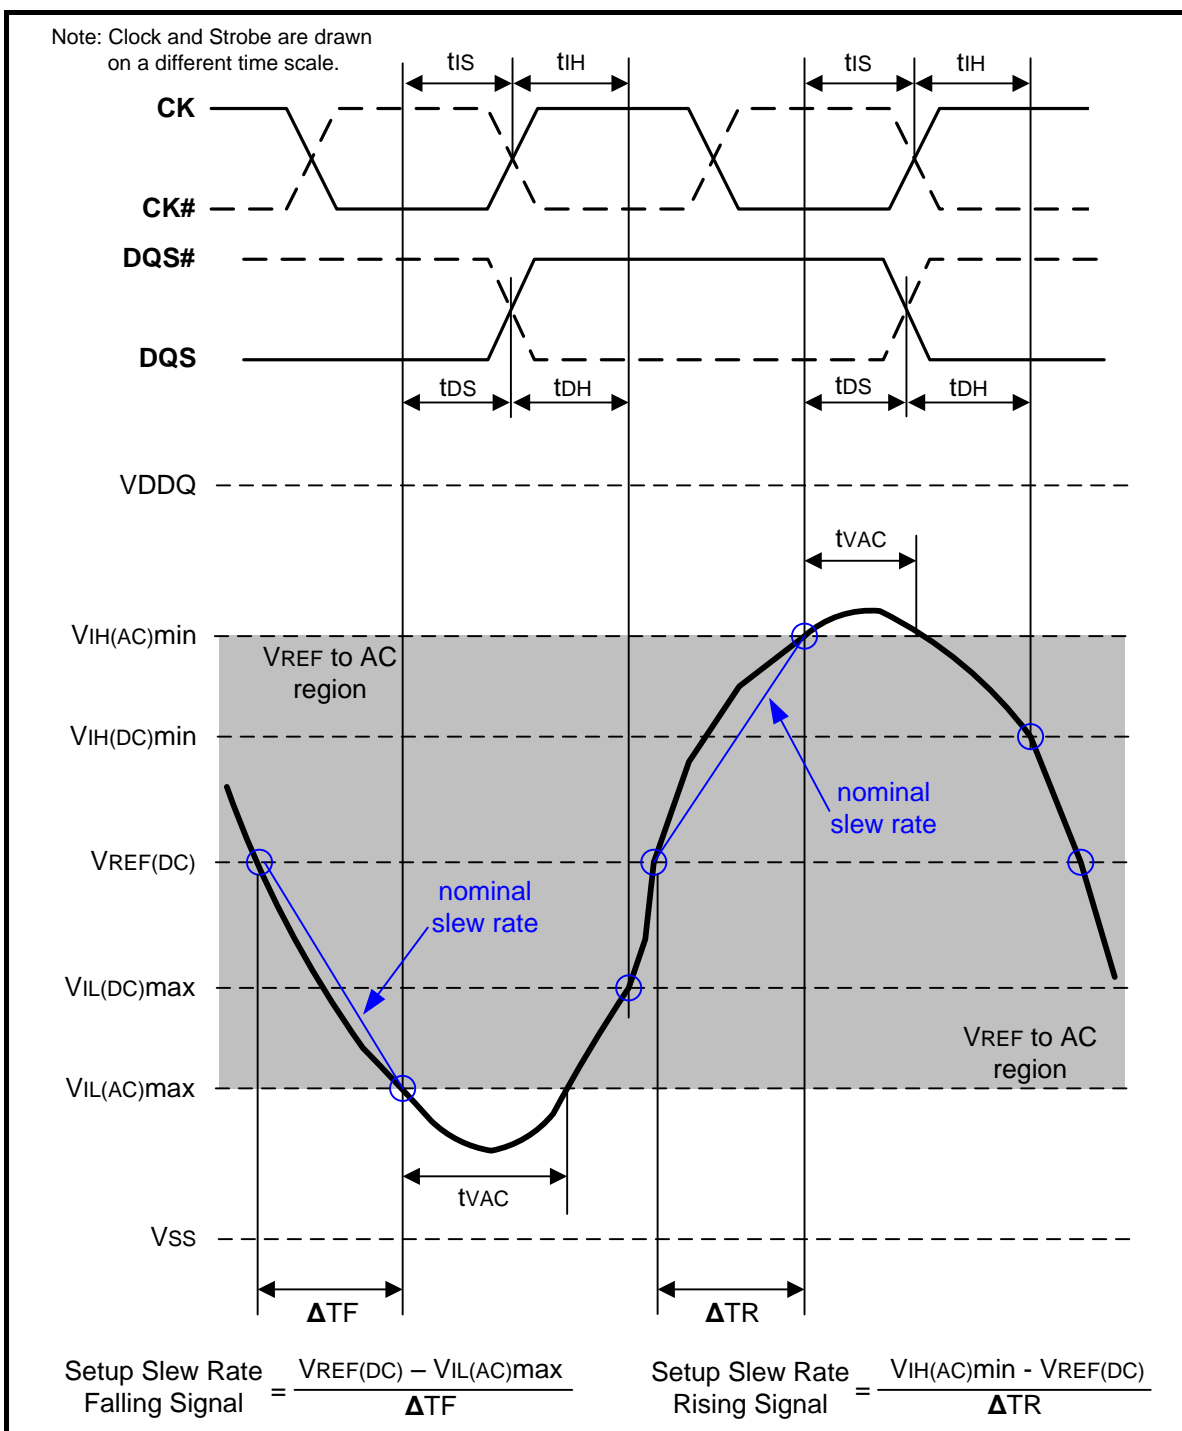
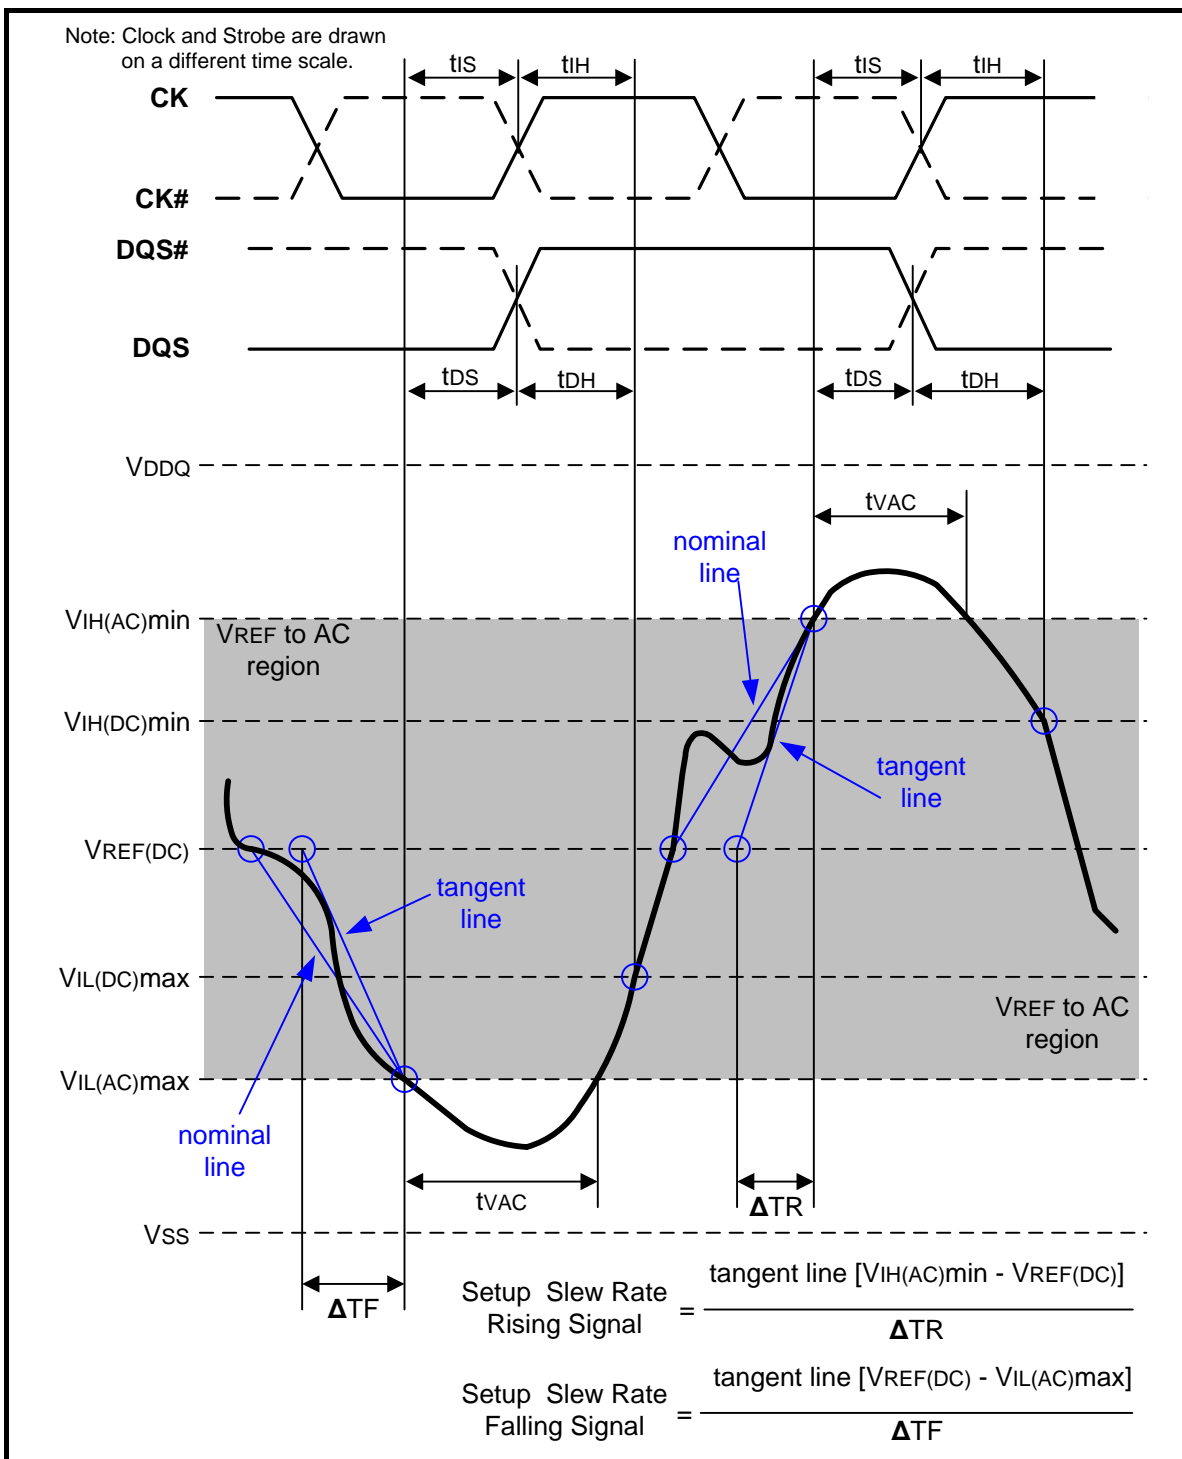

Figure 107 – Illustration of nominal slew rate and t_{VAC} for setup time t_{DS} (for DQ with respect to strobe) and t_{IS} (for ADD/CMD with respect to clock)
Figure 109 – Illustration of tangent line for setup time t_{DS} (for DQ with respect to strobe) and t_{IS} (for ADD/CMD with respect to clock)
Setup (t_{IS}) nominal slew rate for a rising signal is defined as the slew rate between the last crossing of $V_{REF}(\text{DC})$ and the first crossing of $V_{IH}(\text{AC})_{\text{min}}$. Setup (t_{IS}) nominal slew rate for a falling signal is defined as the slew rate between the last crossing of $V_{REF}(\text{DC})$ and the first crossing of $V_{IL}(\text{AC})_{\text{max}}$. If the actual signal is always earlier than the nominal slew rate line between shaded 'VREF(DC) to AC region', use nominal slew rate for derating value (see Figure 107). If the actual signal is later than the nominal slew rate line anywhere between shaded 'VREF(DC) to AC region', the slew rate of a tangent line to the actual signal from the AC level to DC level is used for derating value (see Figure 109).
Setup (tDS) nominal slew rate for a rising signal is defined as the slew rate between the last crossing of VREF(DC) and the first crossing of VIH(AC)min. Setup (tDS) nominal slew rate for a falling signal is defined as the slew rate between the last crossing of VREF(DC) and the first crossing of VIL(AC)max (see Figure 107). If the actual signal is always earlier than the nominal slew rate line between shaded 'VREF(DC) to AC region', use nominal slew rate for derating value. If the actual signal is later than the nominal slew rate line anywhere between shaded 'VREF(DC) to AC region', the slew rate of a tangent line to the actual signal from the AC level to DC level is used for derating value (see Figure 109).